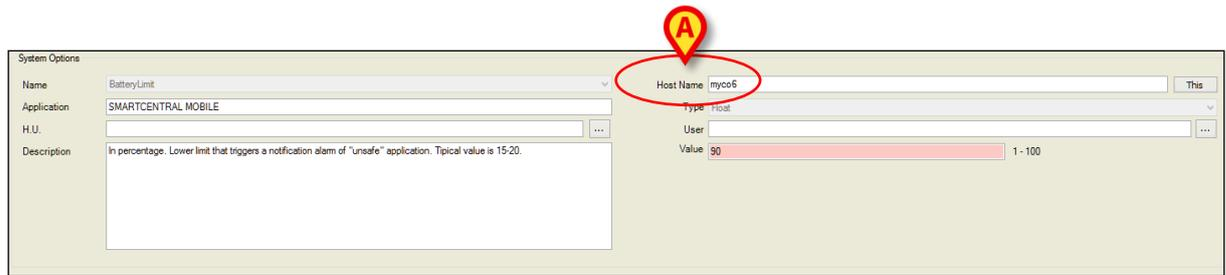

Fig 94
- 4 Specify the name of the mobile device to which the system option refers in the **Host Name** field (Fig 94 **A**).